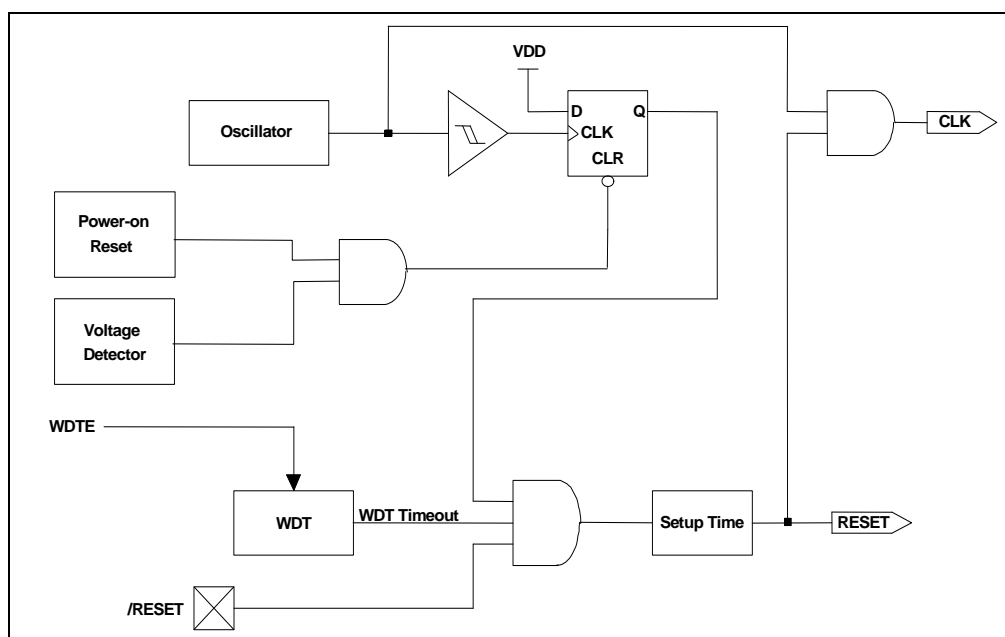

Figure 5-9 Controller Reset Block Diagram
The flag (except ICIF bit) in the Interrupt Status Register (RF) is set regardless of the status of its mask bit or the execution of ENI. Note that the outcome of RF will be the logic AND of RF and IOCF (refer to Figure 5-9). The RETI instruction ends the interrupt routine and enables the global interrupt (execution of ENI).